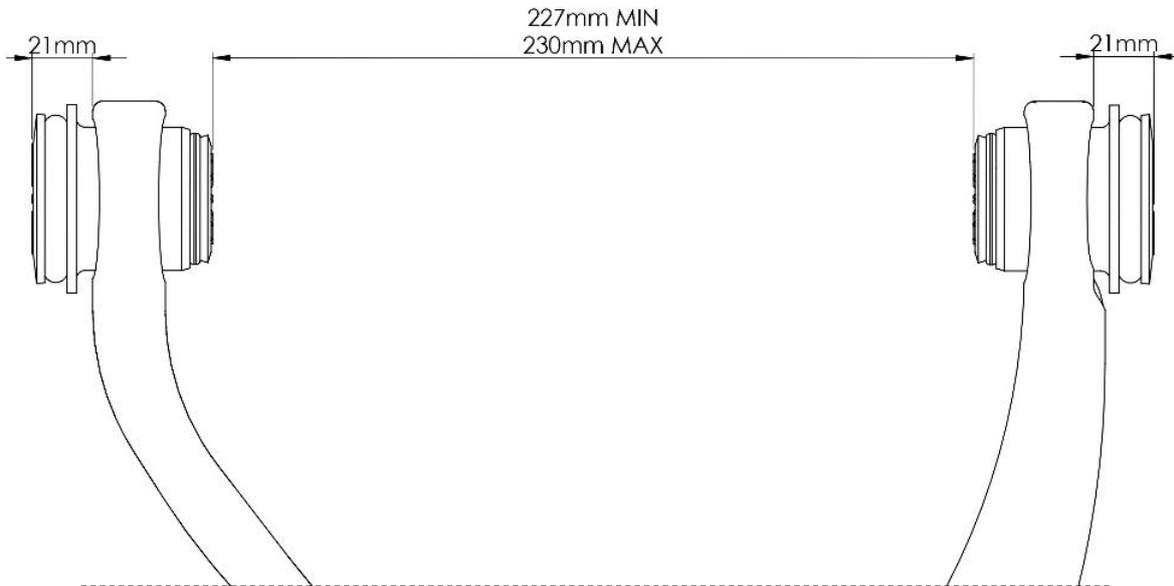

Figure 1: Bushing Installation
- **Note:** Bushings must be pressed in with the flange side facing outwards from the control arm as shown in *Figure 1* above with the correct spacing as shown.